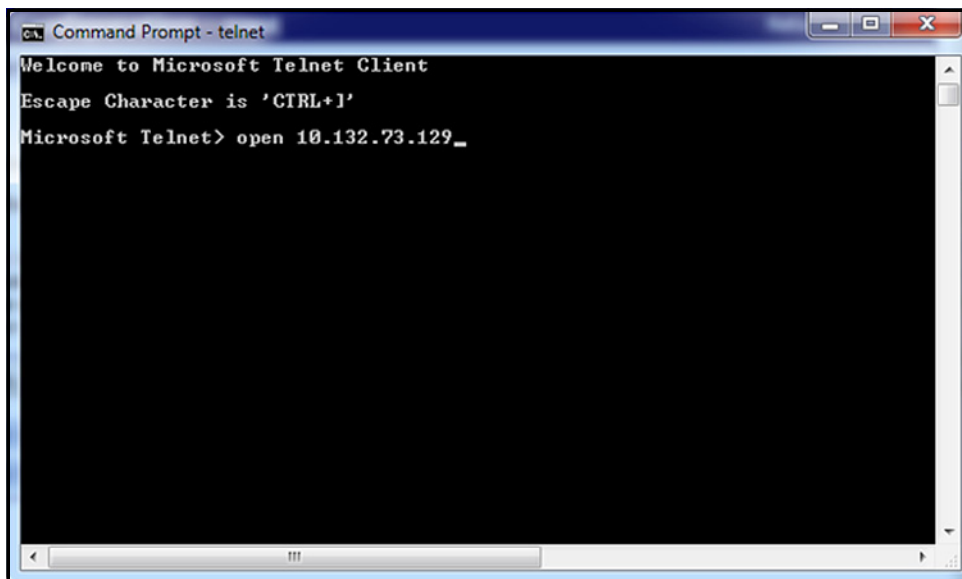

Figure 75: Telnet OPEN Command
2. To connect to the module, use the OPEN command with the IP address of the module (see *Figure 75* below).